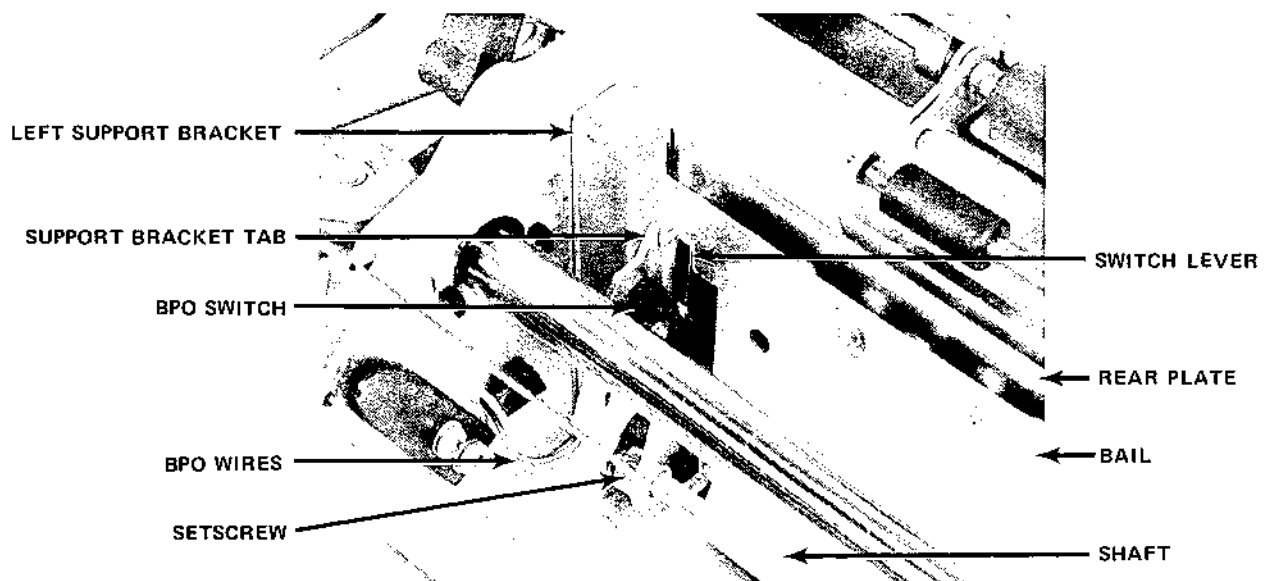

Figure 4-27. BOTTOM FEED ASSEMBLY
- 11) Lower the paper chute rear plate (Item 1) into position flat against the printer frame as shown in Figure 4-27. The row of bumps on the plate must be at the top and projecting forward away from the printer frame. The plate rests on the printer frame on either side of the bottom slot. (Note — Installation will be easier with the carriage centered.)
- 12) Thread the two setscrews (7) part way into the collars on the paper chute bail (3).
- 13) Assemble the Bottom Paper Out (BPO) switch (8) to the left paper chute support bracket (4) using the new switch, one 2-56 x .500" hex washer head screw, one #2 lockwasher and a nut plate (do not tighten).
- 15) Assemble the bottom paper chute bail (3) to the bottom paper chute shaft (6) and to the left and right support brackets (4 and 5), using the two retaining rings (12) at the left end of the shaft.
- 17) Center the bail (3) for equal contact against the left and right support bracket tabs (Fig. 4-27), and then tighten the two setscrews (7) to secure the bail to the paper chute shaft.